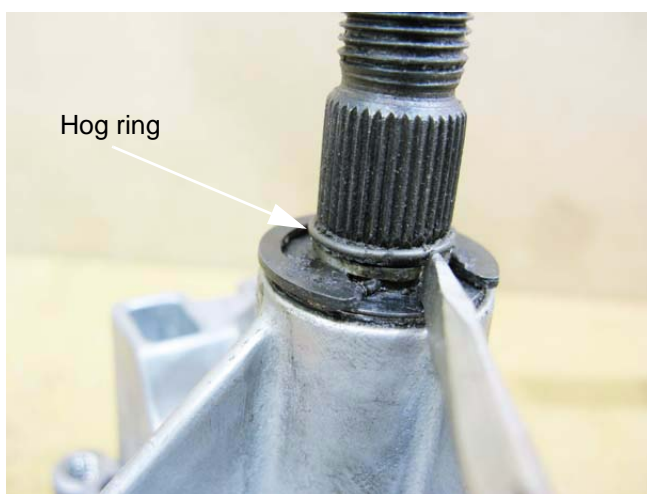

Figure 5.72
- 16a. Remove the hog-ring pulley stop by prying-open the end gap and slipping it up the shaft. See Figure 5.72.